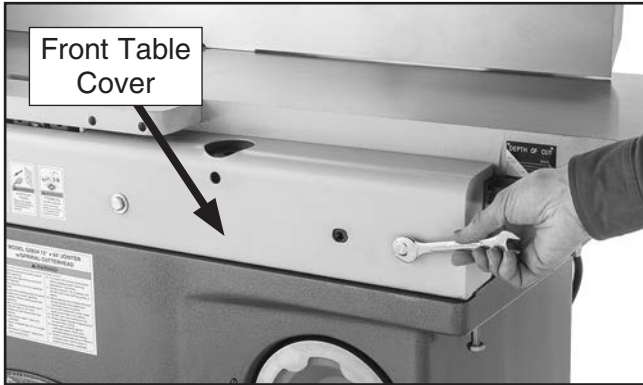

Figure 54. Removing front table cover.
- Remove front and rear table covers to expose eccentric bushings, as shown in **Figures 54–55**.